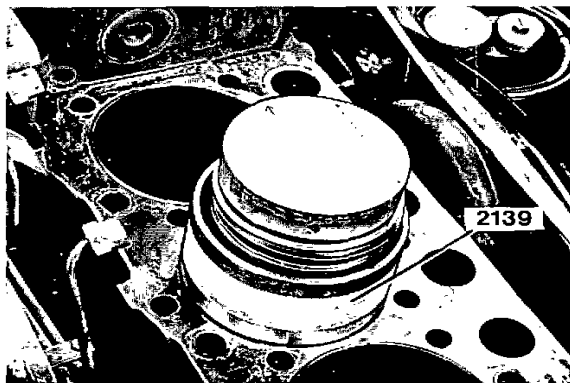

Fig. 62. Fitting a piston in the cylinder, 70 series
2. Check that the arrow on the piston crown and the "FRONT" marking on the connecting rod are facing in the same direction. Fit the pistons with connecting rods into the respective cylinders. The arrow on the piston crown should point forwards. Use fitting ring 6086 for the 60 series, or 2139 for the 70 series (fig. 62).